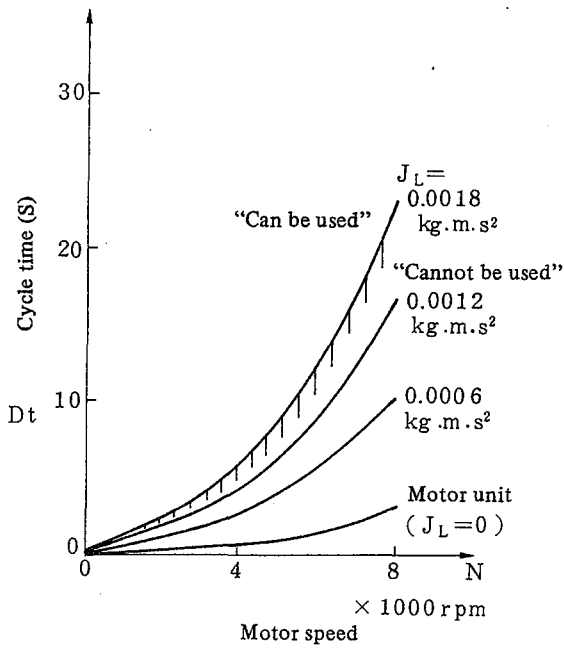

Fig. 1 Model 1S
The results of the calculation in the case of the resistor unit (1) regarding each motor model are shown in the figures 1 - 4 in the following page.
- 2) In the case of resistor unit (2), the cycle time of figures 1 - 4 is 1/2.
- In the case of resistor unit (3), the cycle time of figures 1 - 4 is 1/4.